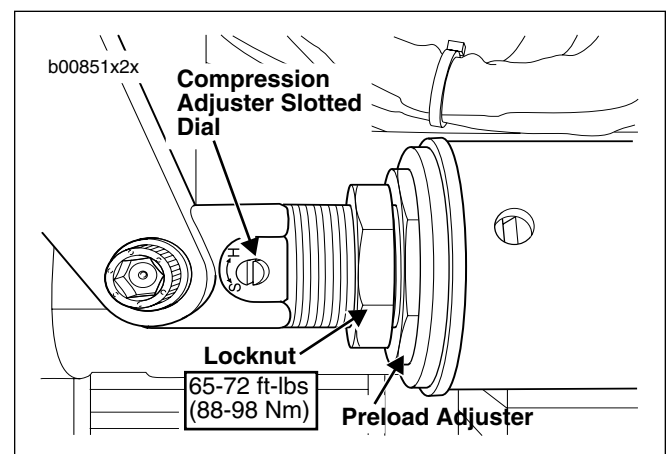

Figure 5. Preload and Compression Damping Adjustment
2. See Figure 5. To adjust shock preload, loosen the locknut and turn the preload adjuster at the end of the shock to move can towards front or rear of motorcycle.
- See Figures 5 and 6. To adjust rear shock to maximum damping setting, use screwdriver to turn slotted dial on appropriate adjuster clockwise until it stops. This is the maximum damping setting.
- See Figures 5 and 6. To adjust rear shock to factory recommended settings, turn dial counterclockwise from maximum damping the amounts shown in Steps 7 and 8 to align the reference marks.
7. See Figure 5. Set compression damping using the slotted dial on the shaft at the rear of the shock. New factory setting is as listed below: